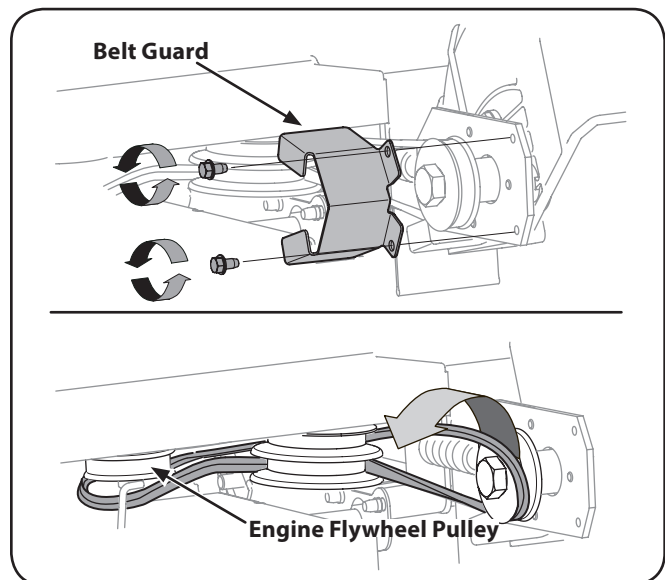

Figure 7-2
3. Remove the spindle sheaves belt guard by removing the two self-tapping screws which secure it to the blade plate assembly. See Figure 7-2.
4. Carefully remove the belt from off of the pulleys, again making sure to note the orientation of the belt. Discard the belt. See Figure 7-2.
**NOTE:** Make certain that the "V" side of the belt is seated into the top pulley and the flat side of the belt is seated into the bottom pulley. See Figure 7-2.